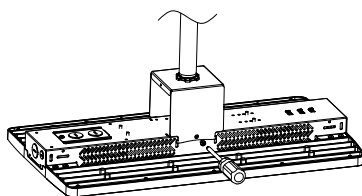

Figure 4
- Step 2. Lock fixture on the bracket (Figure 4)